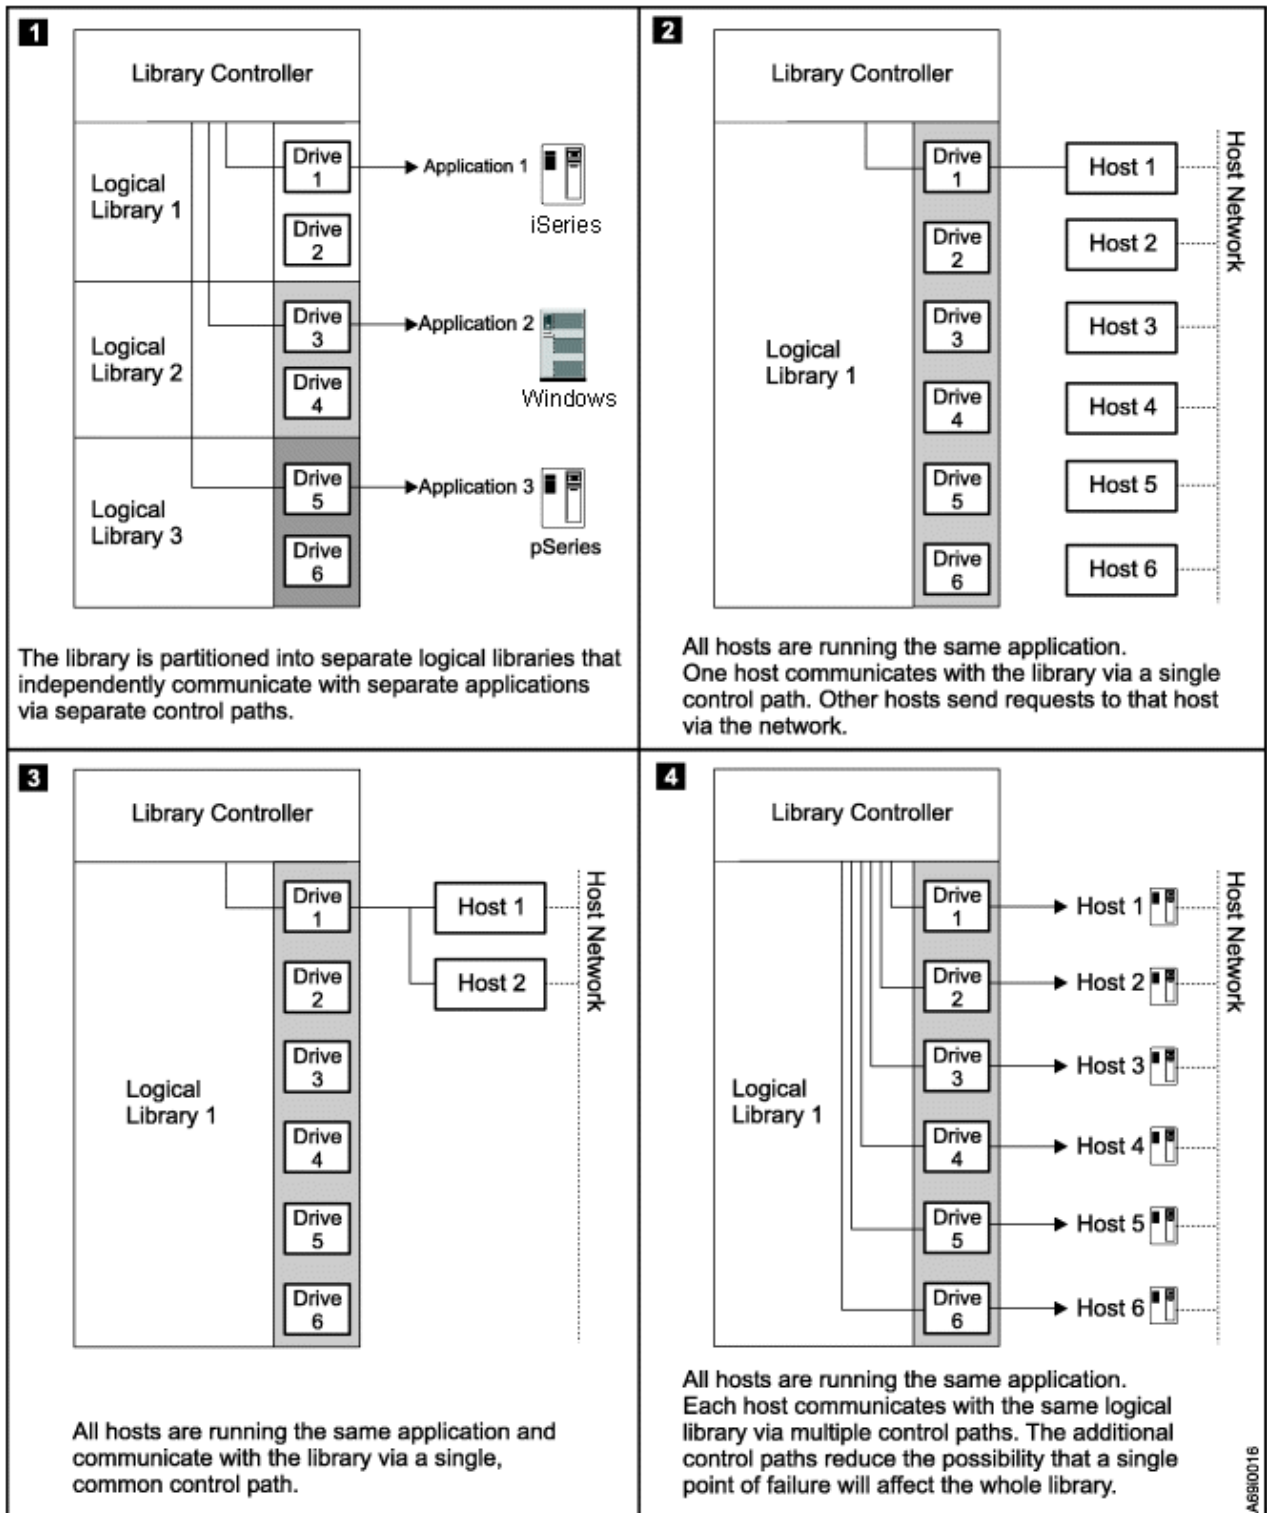

Figure 11. Examples of configurations for sharing an TS4500 tape library
- Configure the library so that it is partitioned into separate logical libraries that independently communicate with separate applications through separate control paths. This configuration (see example **1** in Figure 11 on page 46) requires no special capabilities from the server or application.
- Configuring one server (mainframe host) to communicate with the library through a single control path; all other servers send requests to that server through a network (see example **2** in Figure 11 on page 46). This configuration is used by Tivoli® Storage Manager (TSM).
- Configuring all of the servers to communicate with the library through a single, common control path (see example **3** in Figure 11 on page 46). This configuration is used in high-availability environments such as High-Availability Cluster Multi-Processing (HACMP) from IBM and Systems Management Server and Clustered Server Environments from Microsoft. Multi-initiator configurations are only supported by certain adapters and independent software vendors (ISVs). Check with your ISV.
- Configuring a single logical library to communicate with multiple servers through multiple control paths. This configuration (see example **4** in Figure 11 on page 46) requires that you add control paths. It is used by Backup, Recovery, and Media Services.
Your library configuration is not limited to the examples shown in Figure 11 on page 46. Many configurations are possible, and you can design them according to your business needs.